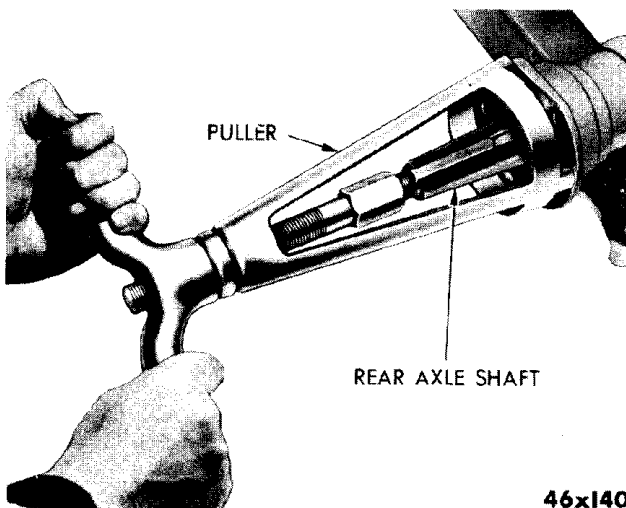

Fig. 4—Removing Axle Drive Shaft and Bearing—Tool C-499-A
- (5) Remove axle shaft and bearing, as shown in Figure 4.